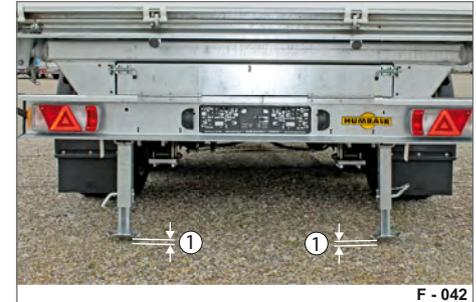

Fig. 65 Folding support folded down
► After folding down and, if necessary, adjusting the folding supports, check whether there is still an air gap (Fig. 65/1) between the ground and the levelling foot plate.